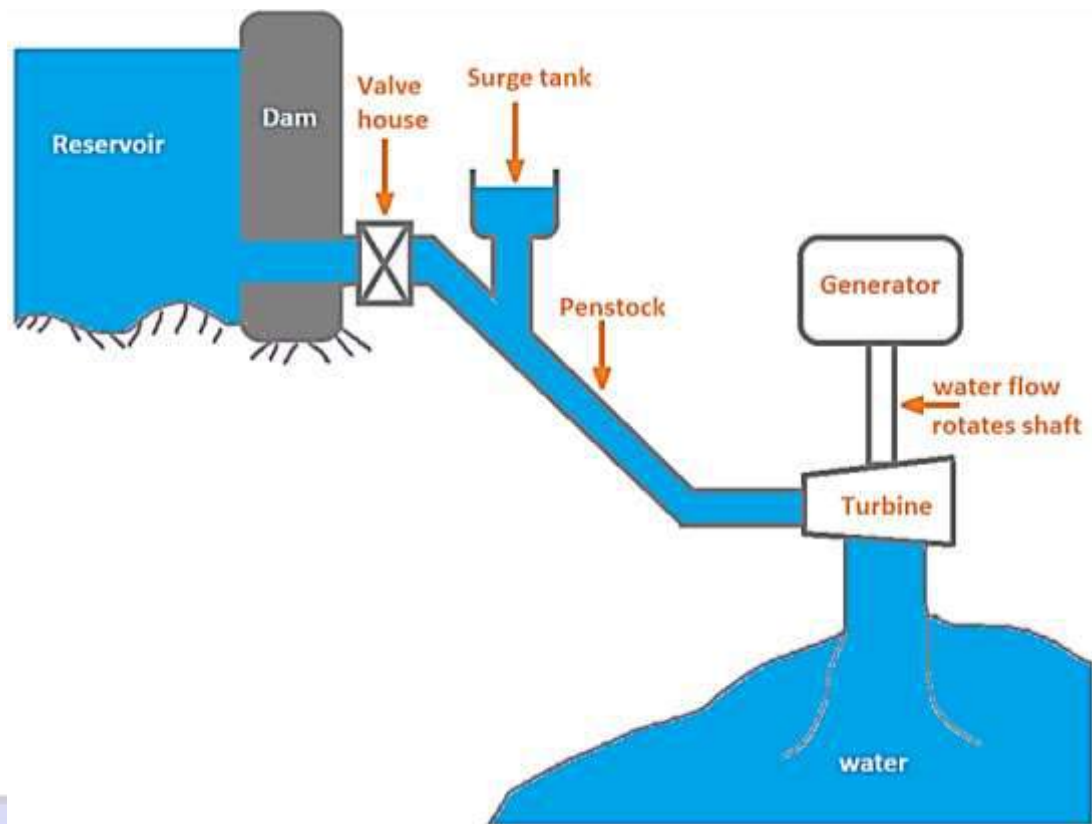

Fig. 4: Hydroelectric power plant (from google)
- The schematic arrangement of a hydro-electric plant is shown in Figure 4.